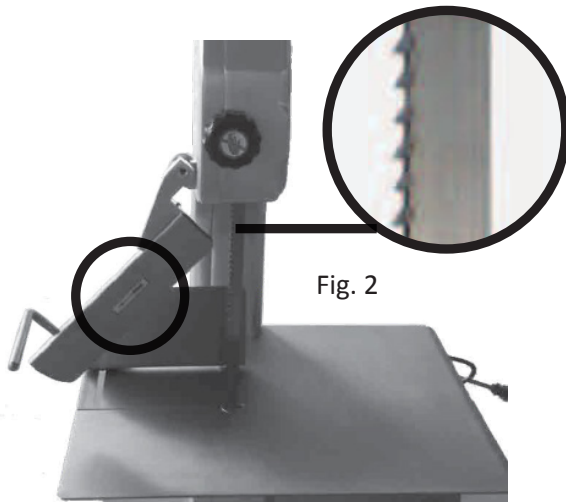

Fig. 2
3. When using the saw, push the handle of the safety fence evenly and parallel from left to right as shown below (See Fig. 2).
3. When installing the blade, its teeth edge should face towards the safety fence (#45). (See FIG 2 above)